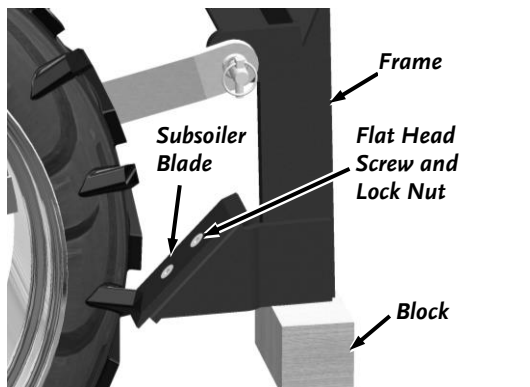

Figure 9
1. Lower the 3PT SUBSOILER/MIDDLE BUSTER on to a Support Block (**Figure 9**).